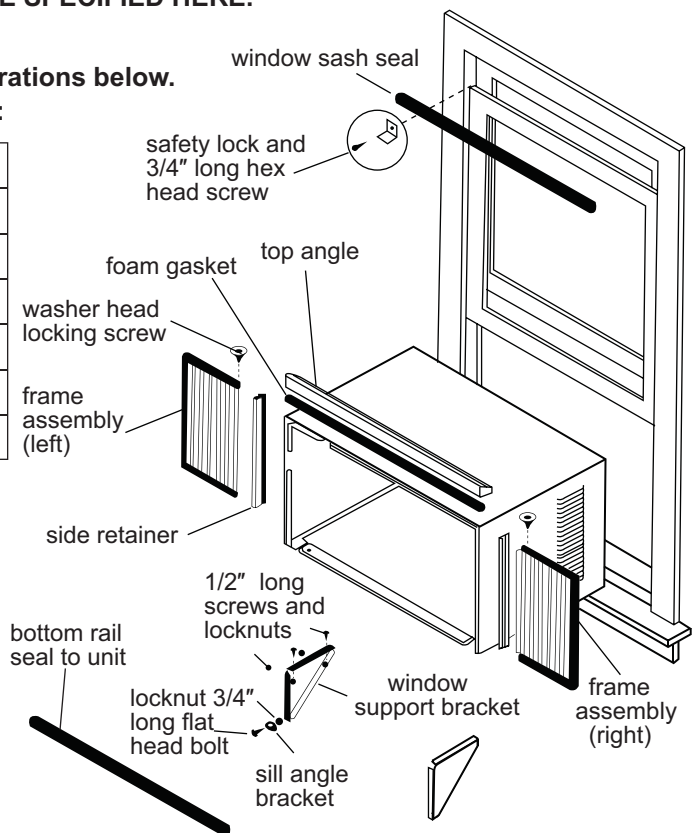

FIG.1
1. Check window opening size: the mounting parts furnished with this air conditioner are made to install in a wooden sill double-hung window. The standard parts are for window dimensions listed above. Open sash to a minimum of 19" (483mm). (FIG.1)